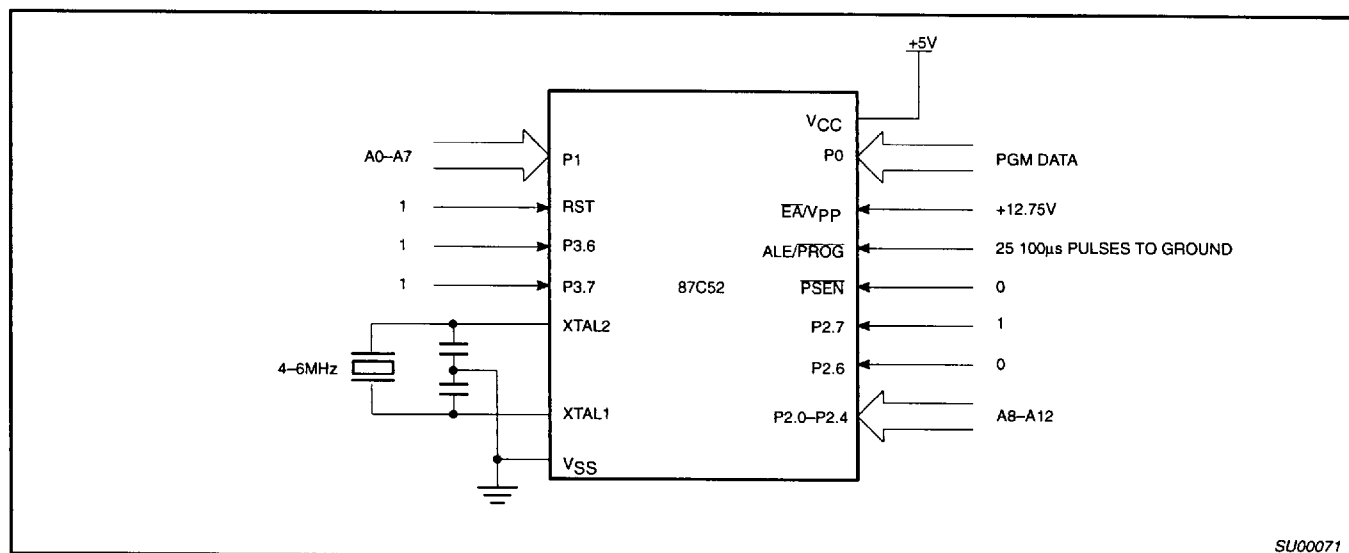
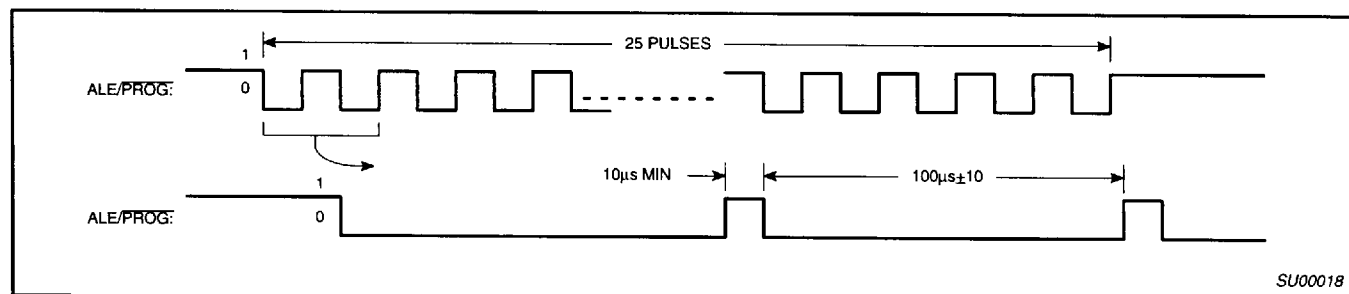
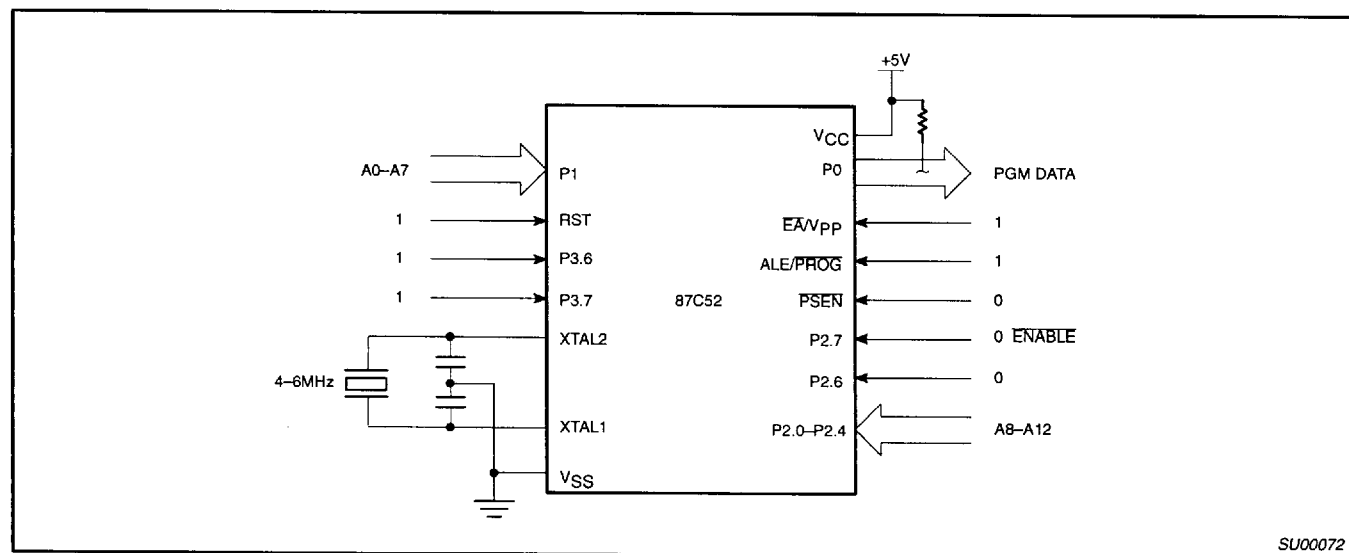

Figure 17. Programming Configuration
Figure 18. PROG Waveform
Figure 19. Program Verification
Table 6 shows the logic levels for reading the signature byte, and for programming the program memory, the encryption table, and the security bits. The circuit configuration and waveforms for quick-pulse programming are shown in Figures 17 and 18. Figure 19 shows the circuit configuration for normal program memory verification.
The setup for microcontroller quick-pulse programming is shown in Figure 17. Note that the 87C52 is running with a 4 to 6MHz oscillator. The reason the oscillator needs to be running is that the device is executing internal address and program data transfers.
The address of the EPROM location to be programmed is applied to ports 1 and 2, as shown in Figure 17. The code byte to be programmed into that location is applied to port 0. RST, PSEN and pins of ports 2 and 3 specified in Table 6 are held at the 'Program Code Data' levels indicated in Table 6. The ALE/PROG is pulsed low 25 times as shown in Figure 18.
If security bit 2 has not been programmed, the on-chip program memory can be read out for program verification. The address of the program memory locations to be read is applied to ports 1 and 2 as shown in Figure 19. The other pins are held at the 'Verify Code Data' levels indicated in Table 6. The contents of the address location will be emitted on port 0. External pull-ups are required on port 0 for this operation.
- * FOR PROGRAMMING VERIFICATION SEE FIGURE 17.
FOR VERIFICATION CONDITIONS SEE FIGURE 19.